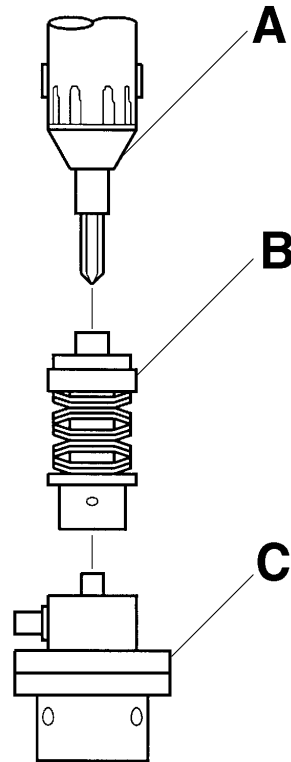

Figure 4-1: Power Tool Test Setup
6. Install the joint rate simulator onto the **SURETEST** transducer, as shown in Figure 4-1. Secure the transducer set screw, if provided. Loosen the simulator load screw using the appropriate hex or box wrench.